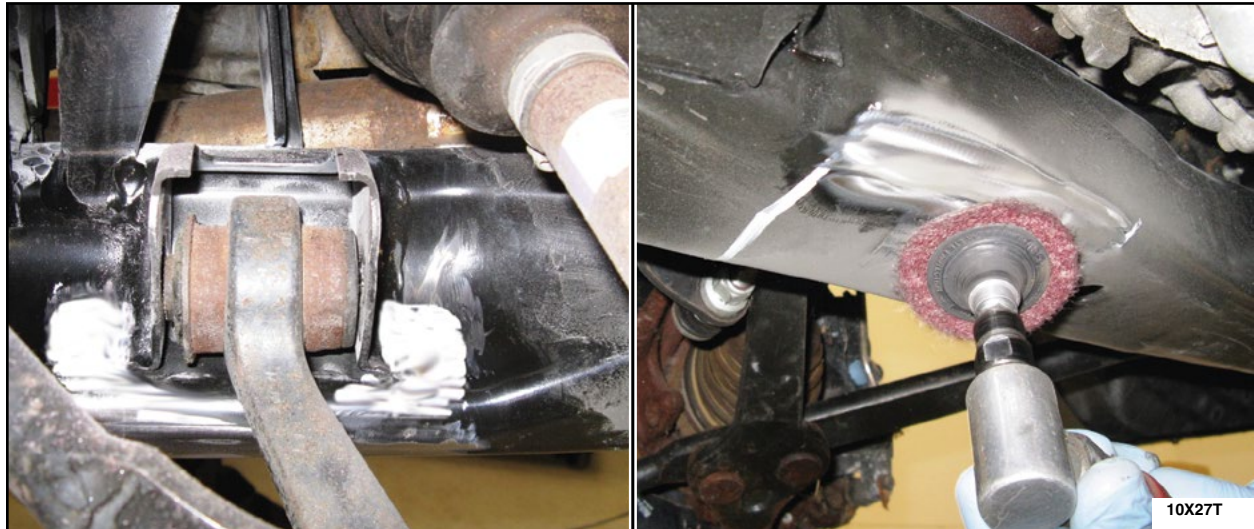

FIGURE 9
- Using a 50 mm (2 in) diameter coarse Roloc™ Disc or equivalent, clean the subframe in the marked areas. Remove all E-coat and rust. Metal should be shiny in appearance. (Do not try to remove tool marks or marks caused by deep stone pecking or pitting.) See Figure 9.